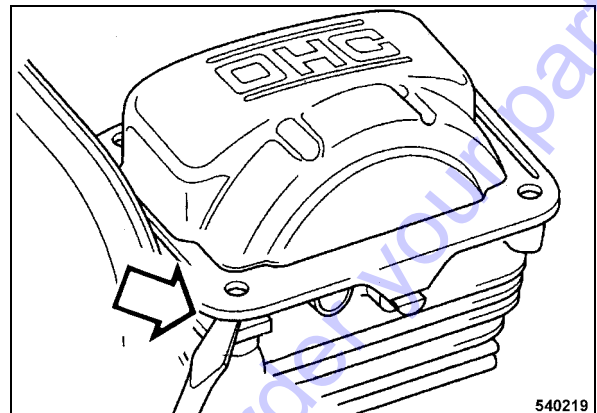

Fig. 43
- Insert the screw driver into the recess (Fig. 43) and take the cylinder head cover carefully off.